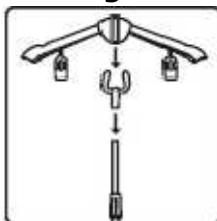

fig.7
2. Insert vertically the hanger into the hook until it is firmly fixed. (fig.7)
3. Place the head support/hook on the top of the pole and push down to secure. (fig.7)